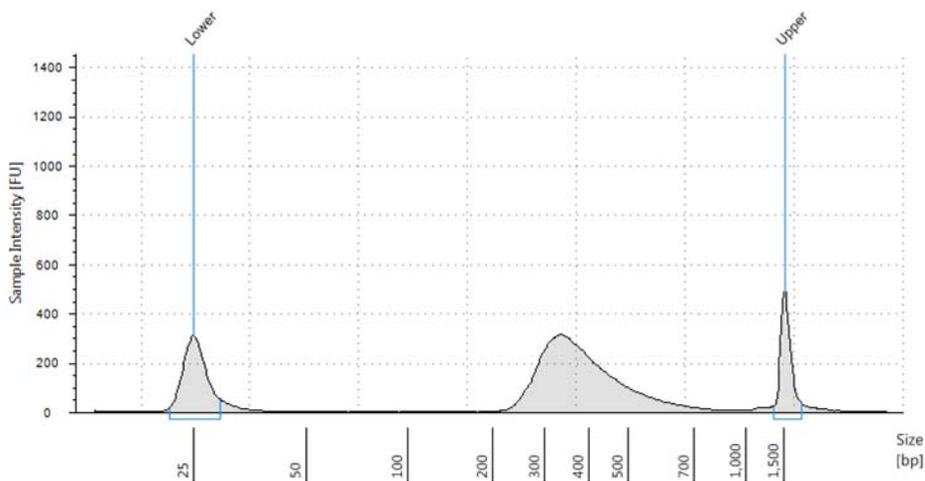

Figure 11 Analysis of indexed DNA sample using a High Sensitivity D1000 ScreenTape.
- 3 Verify the results. Check that the electropherogram shows a distribution with a fragment size peak between approximately 250 to 300 bp. A sample electropherogram is shown in Figure 11.